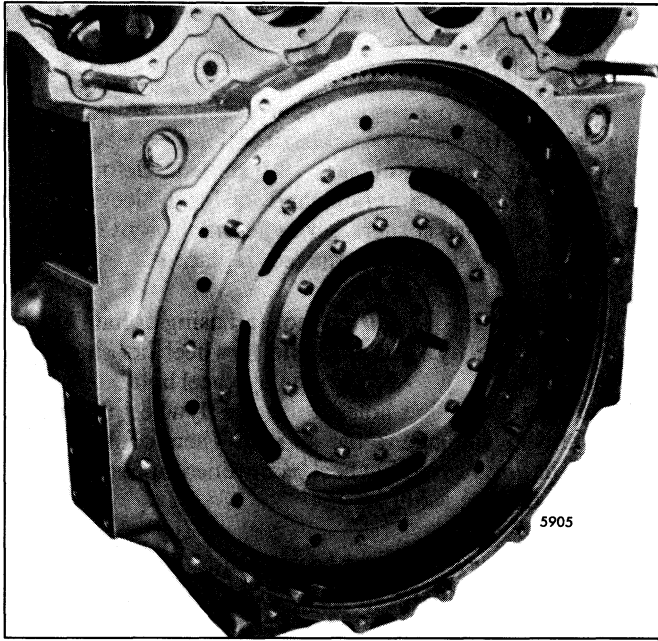

Fig. 7 - Position Flywheel Using Guide Studs
7. Apply a light upward pressure by prying with a screwdriver (Fig. 7) between the flywheel housing counterbore and the support assembly outside diameter, while tightening the bolts to 71-75 lb—ft (96-102 N*m) torque. Check the clearance between the crankshaft and outboard bearing with a 1/4" feeler gage. The clearance should be a minimum of .001" at the bottom of the crankshaft and not be less than